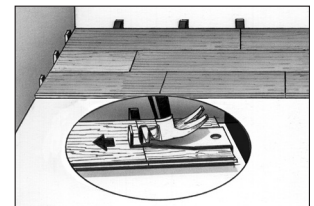

Figure 9
- Mark the last piece, cut and install. After all boards in the row are installed, press or walk all boards flat to the subfloor to begin the next row (Fig. 9).